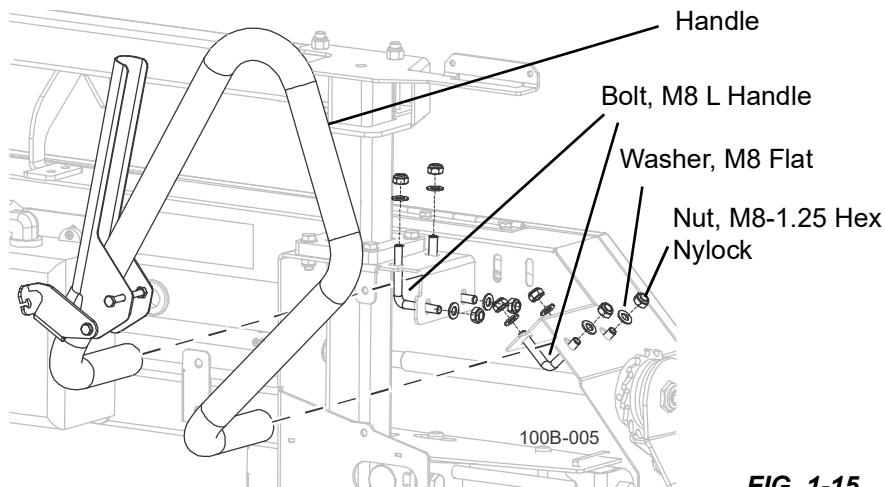

FIG. 1-15
2. Invert the handle and replace it as shown. See FIG. 1-15.